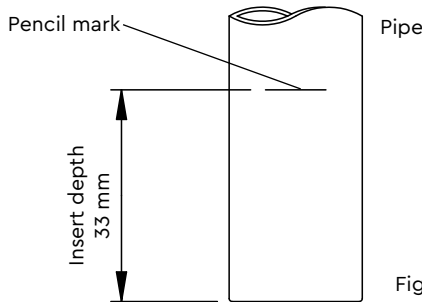

Fig. 4
1. The pump has a G ¾ threaded connection to accept the supplied hose. The hose is made water tight with a sealing washer on assembly, nip tight to 4 to 5 Nm for water tight seal. **(Do not overtighten)**. The supplied hose must only be connected to 22 mm pipework. Ensure the pipe is free from all score marks and deformities in the area of the insertion depth (Fig. 4) and cut the pipe square removing all burrs and sharp edges to prevent damage to the sealing 'O'-ring.